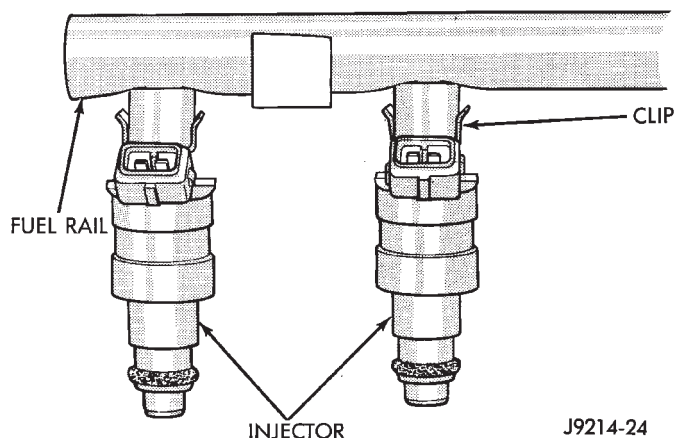
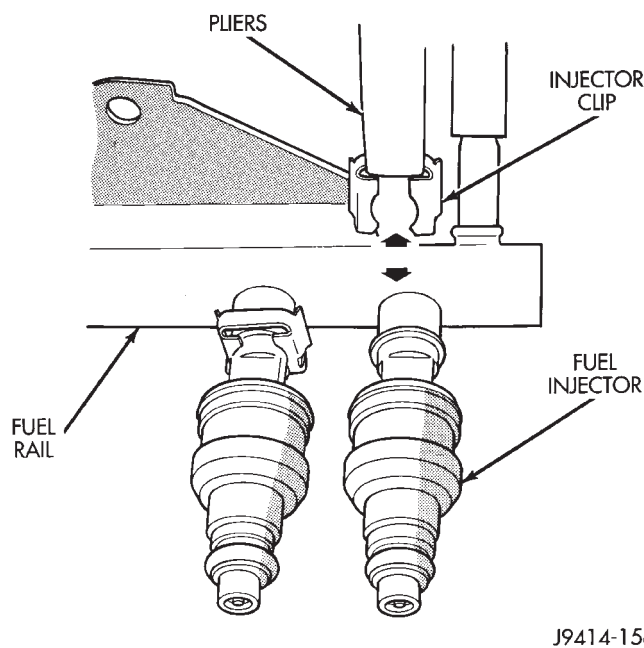

Fig. 32 Injector Mounting
Fig. 33 Injector Retaining Clips—Typical Injector
(1) Remove fuel rail. Refer to Fuel Injector Rail Removal in this section.
(2) Remove clip(s) that retain fuel injector(s) to fuel rail (Fig. 32) or (Fig. 33).